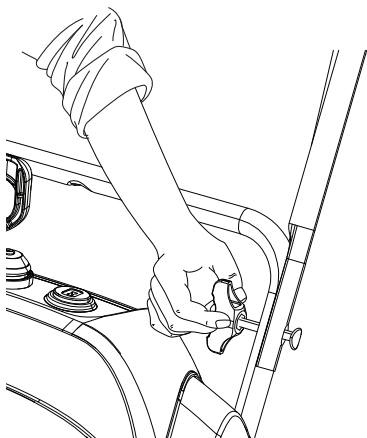

Figure 3
- Tighten the handle knobs until they are snug (Figure 3).